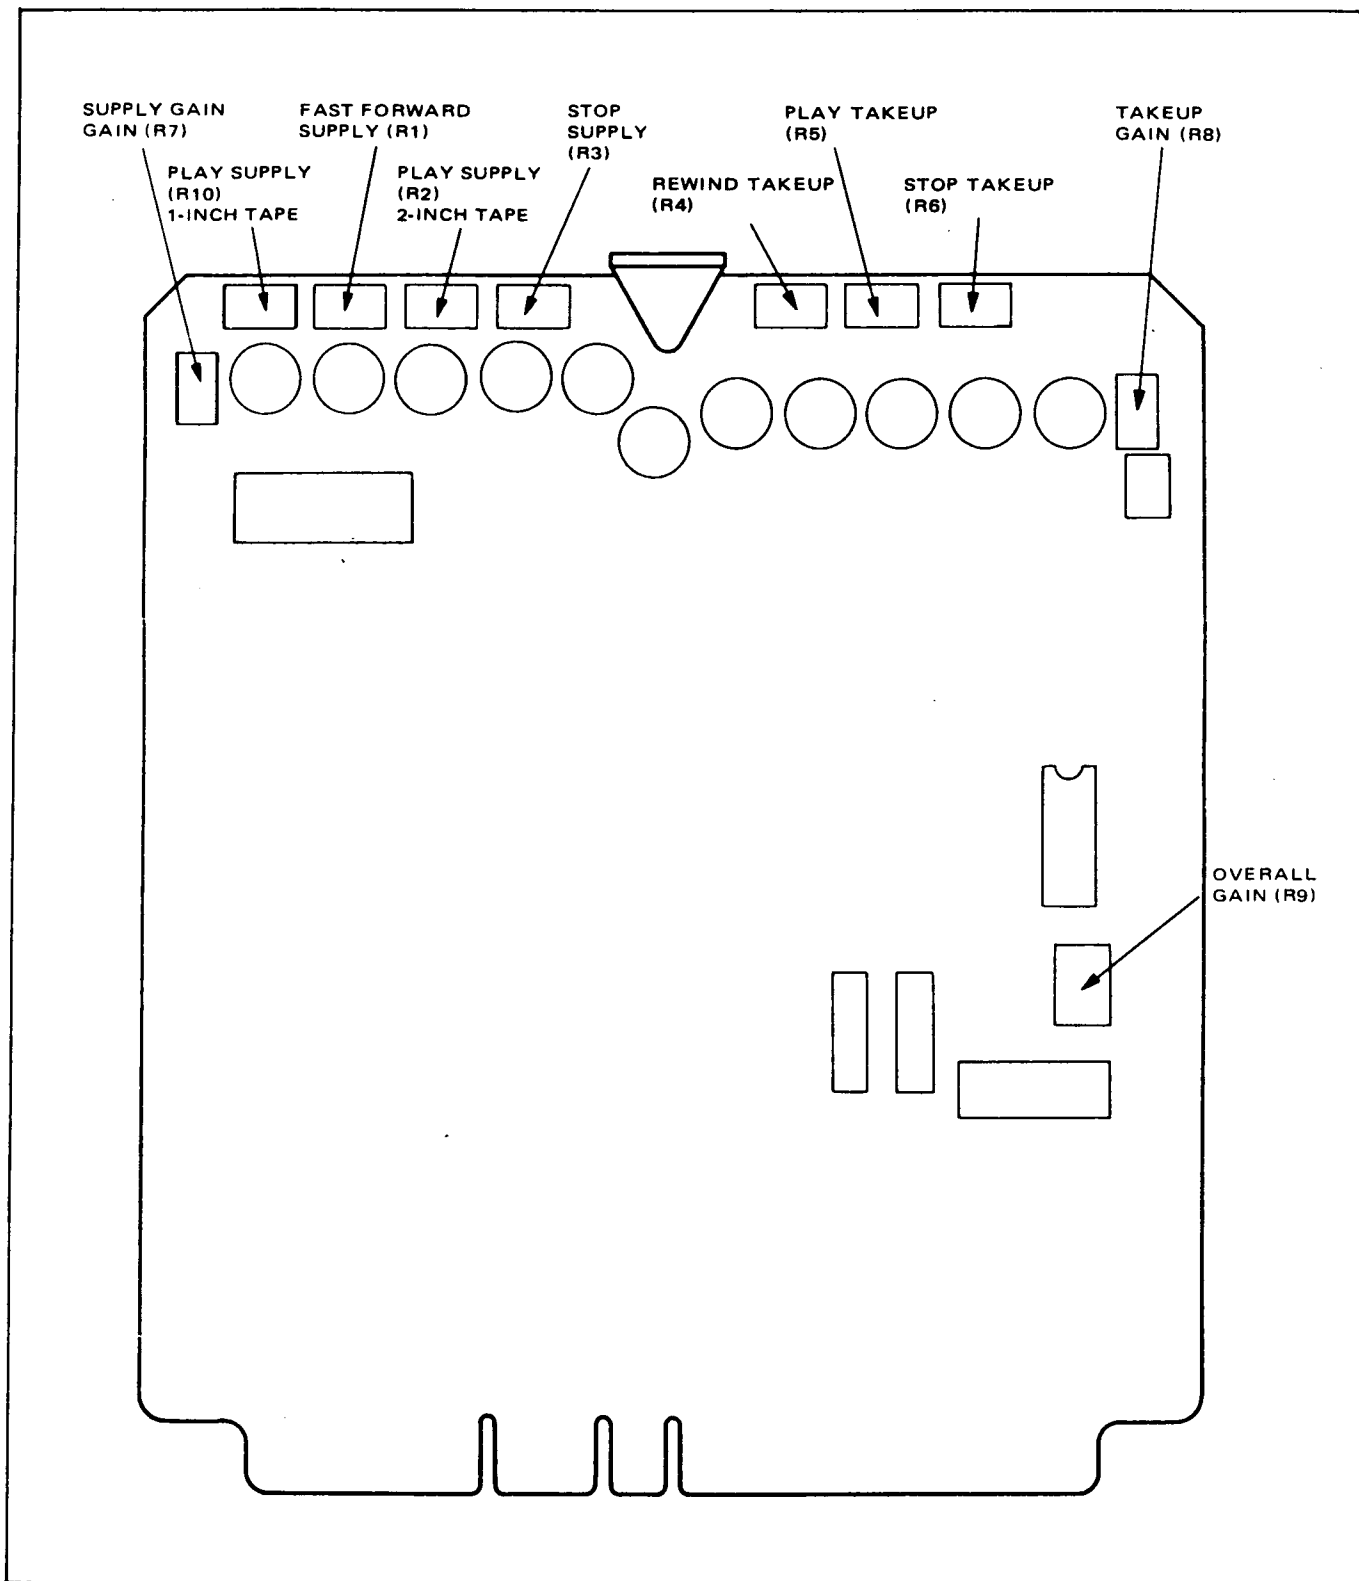
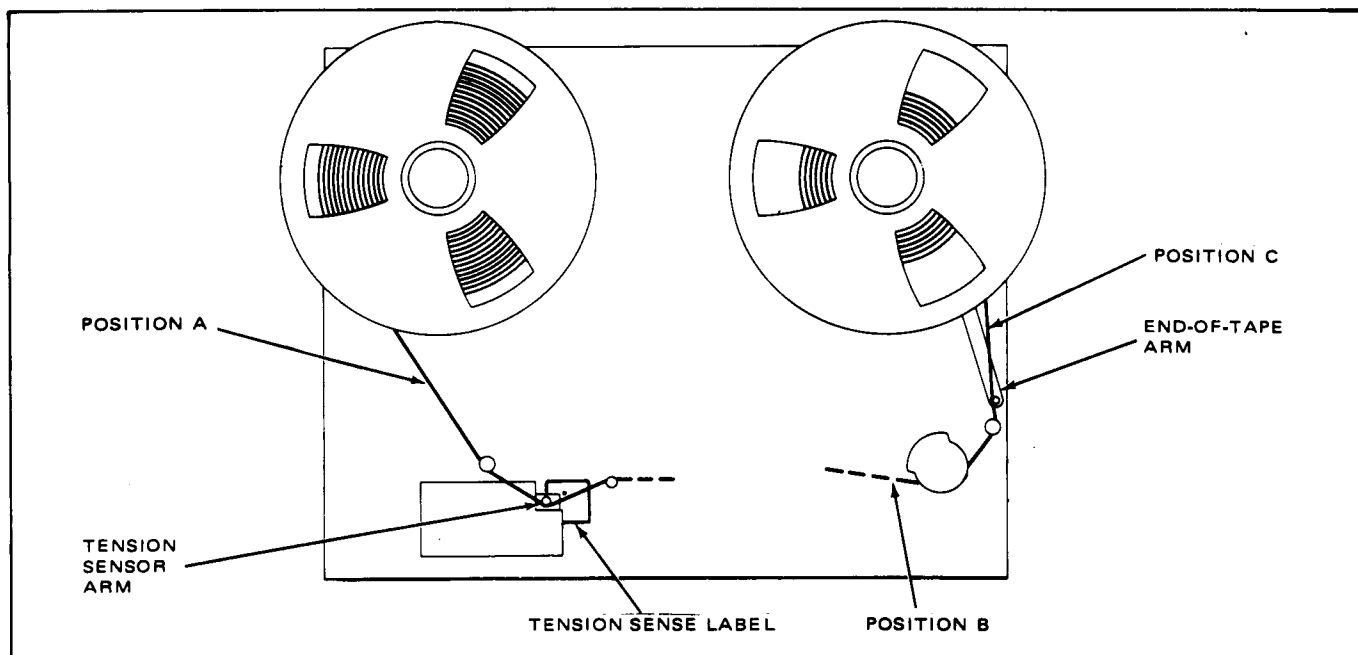

Figure B-1. Transport Control PWA, Control Locations
Figure B-2. Tape Tension Adjustments
3. Remove the transport control PWA (Figure B-1) from its connector and reinstall it using an extender board, part no. 4050695-04.
4. Referring to Figure B-1, position potentiometers R1 through R6 and R10 fully counterclockwise, R7 and R8 fully clockwise, and R9 to mid-position.
2. Adjust the SUP GAIN potentiometer (R7) (Figure B-1) until the torque on the supply reel just reduces to zero, as observed by no reel motion.
3. Place the recorder/reproducer in the rewind mode, and adjust T-UP GAIN potentiometer R8 (Figure B-1) until the torque on the take-up reel just reduces to zero (no reel motion).
The tension sensor arm is calibrated at the factory. If the position of the tension sensor arm (Figure B-2) is changed, or the adjustment specified in step 2 of the following *Stop Tension* adjustment procedure cannot be achieved, perform the *Tension Sensor Arm Calibration* procedure, paragraph B-10.
1. Thread a reel of tape onto the transport (see Figure B-1), using the largest reel size expected to be used (up to 16 inches). Wrap only two turns of tape onto the takeup reel.
2. Insert the tape tension meter in position A as shown in Figure B-2. Adjust R3 (Figure B-1)
3. Insert the tape tension meter in position C as shown in Figure B-2. Adjust R6 (Figure B-1) for a tension indication of 6.5 ± 0.5 oz (two-inch tape) or 3.5 ± 0.5 oz (one-inch tape).
The above adjustments result in relatively high tape tension in the stop mode. If desired for easier tape handling and editing purposes, R3 and R6 (Figure B-1) may be adjusted so that the tension is approximately one-half of normal, or less, as indicated on the tape tension meter. Check that proper balance is maintained so that the tape does not tend to move in either direction during stop mode.
2. Insert the tension meter in position A as shown in Figure B-2, and depress the PLAY pushbutton. Adjust potentiometer R2 (two-inch tape) or R10 (one-inch tape) for a tension indication of 6.5 ± 0.5 oz (two inch tape) or 3.5 ± 0.5 oz (one-inch tape).
3. Insert the tension meter in position B as shown in Figure B-2. Adjust potentiometer R5 for a tension indication of 12 ± 1 oz (two-inch tape) or 6 ± 1 oz (one-inch tape).